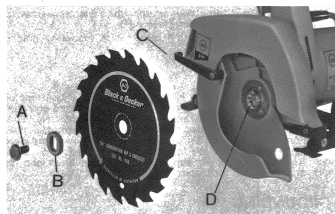

FIGURE 1
2. To remove blade clamping screw ("A", Fig. 1):